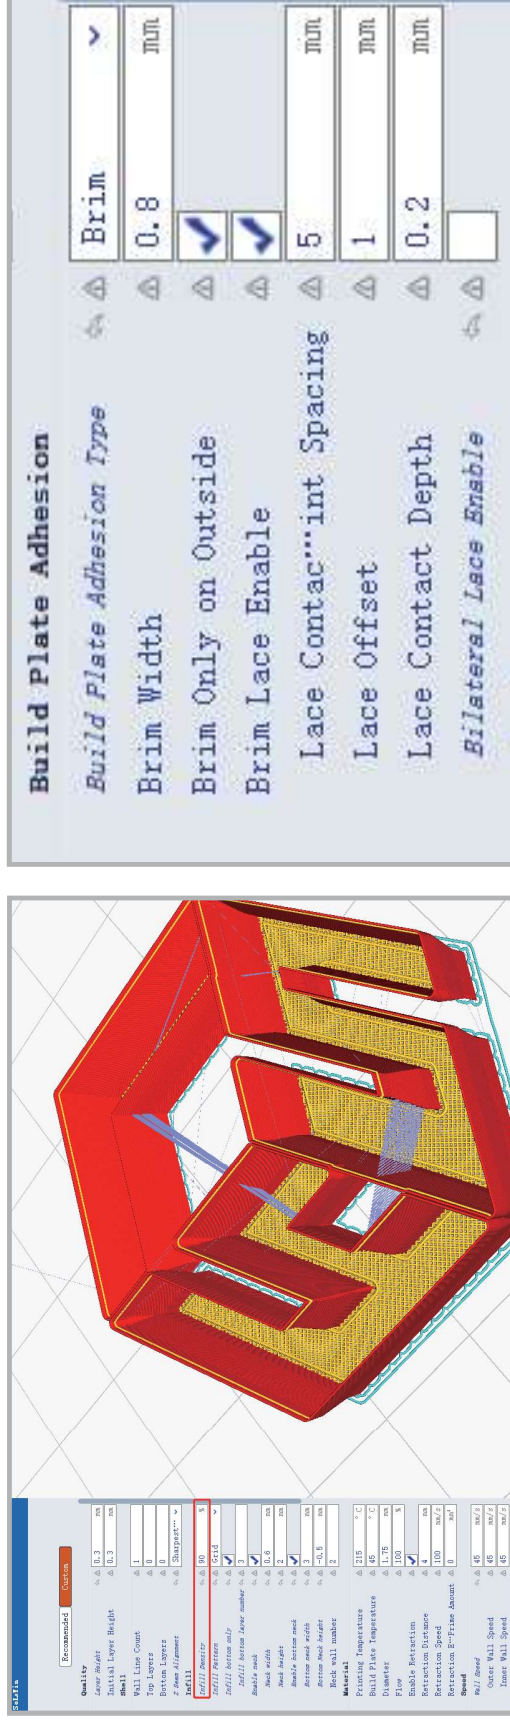

Figure 1–44
Three types of attachments are available, including single skirt, side skirt and raft, which have a great effect in anti-warping (Figure 1–45).
- Side skirt: also known as anti-warping fancy border, which could adjust parameters such as fancy border type, inside/outside type, spacing, offset depth, single/double fancy border according to requirements (Figure 1–44).